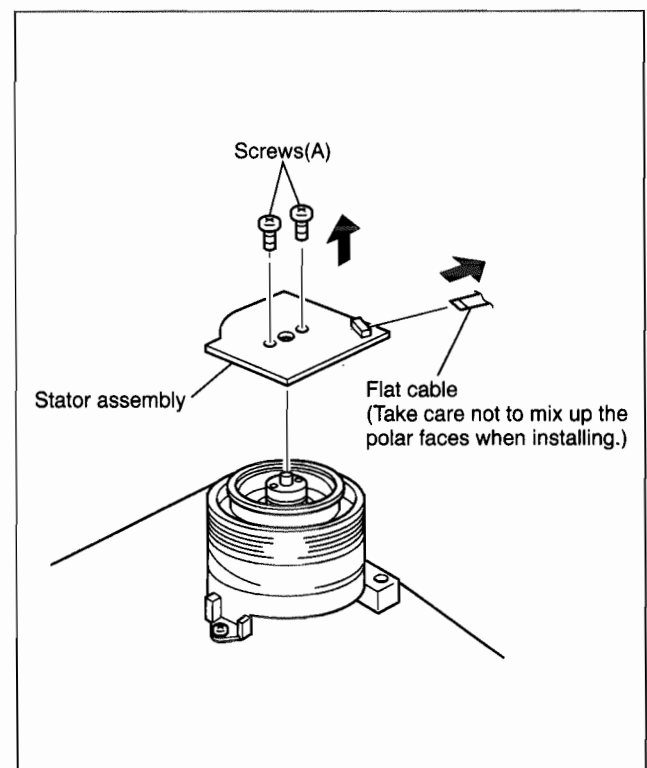

Fig. 2-2-41
- (6) After installation, gently turn the upper drum assembly with your hand to make sure that it turns normally. Then install the brush and the spring.
- (7) Install the rotor assembly and stator assembly according to Fig 2-2-41 and 2-2-42.
- (8) When installation is complete, clean the upper drum assembly and lower drum assembly and carry out the following adjustments.